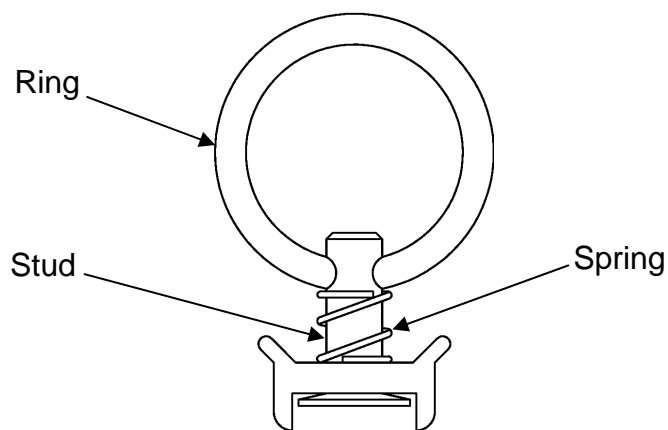

Figure 3
- (iii) Continue to rotate the spring until it is wound completely onto the stud and under the ring. See Figure 3.